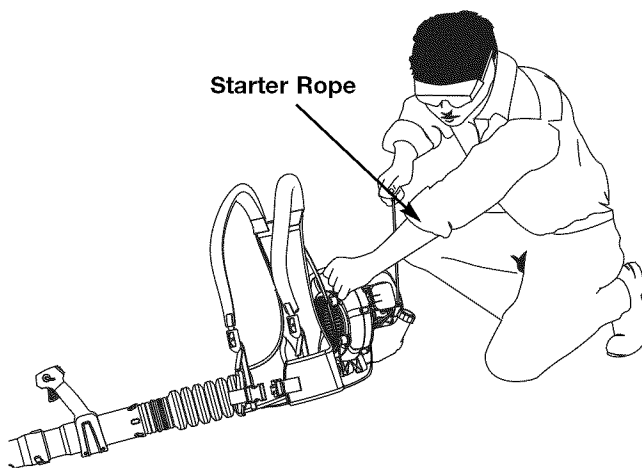

Fig. 13
WARNING: Avoid accidental starting. Make sure you are in the starting position when pulling the starter rope (Fig. 13). To avoid serious injury, the operator and unit must be in a stable position while starting. To avoid serious personal injury, make sure that the blower tube is locked in place or firmly installed.
6. Crouch in the starting position (Fig. 13) and pull the starter rope 5 times in a controlled motion.